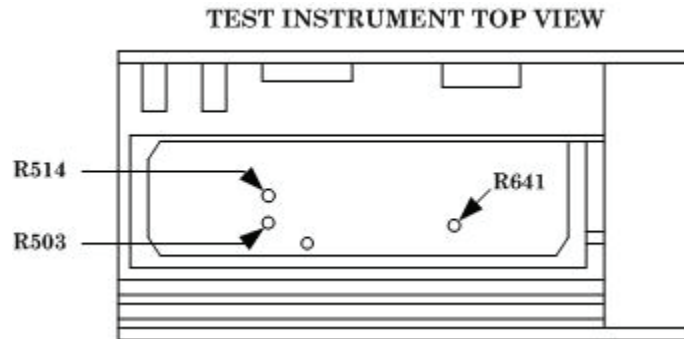

Figure 4. Adjustment locations.
- (1) Press **SHIFT-INSTR PRESET** pushbuttons, **PARAMETER-LEVEL** pushbutton, then press **ON/OFF-OFF** key.
- (2) Remove top cover.
- (3) Press pushbuttons as listed in (a) through (f) below:
- (4) Adjust R514 (fig 4) for a  $0 \pm 0.1$  dBm power indication (R).
(5) Press **TI PARAMETER–RF** pushbutton, enter **DATA 8** numerical value, and press **ENTER/UNITS MHz** key.
(6) Using measuring receiver RF power measurement techniques, measure RF power and set **RATIO** on.
(7) Press **TI PARAMETER–RF** pushbutton, enter **DATA 7.999** numerical value and press **ENTER/UNITS MHz** key.
(8) Set measuring receiver to measure RF power at 7.999 Mhz.
(9) Adjust R641 (fig. 4) for a  $0.00 \pm 0.05$  dBm power indication on measuring receiver. (R)
(10) Press **SHIFT-INSTR PRESET** pushbuttons, **PARAMETER–LEVEL** pushbutton, and press **ON/OFF–OFF** key.
(11) Replace top cover.